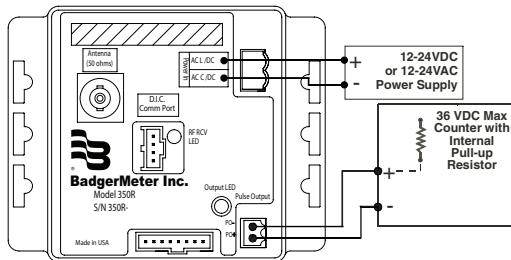

Figure 6: Sample Badger ORION Wireless Receiver Electrical Wiring
1. Refer to Figure 6 for terminal connections and wiring example.